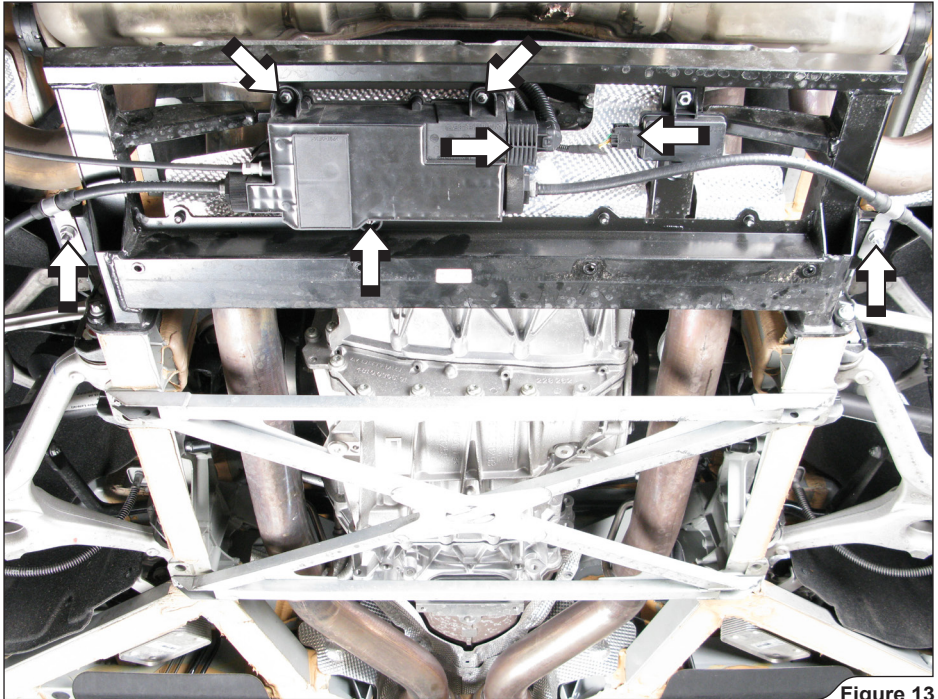

Figure 13
10. Disconnect marked electrical connectors, unscrew the marked nuts and partially remove the hand-brake system from the bracket (**Figure 13**).